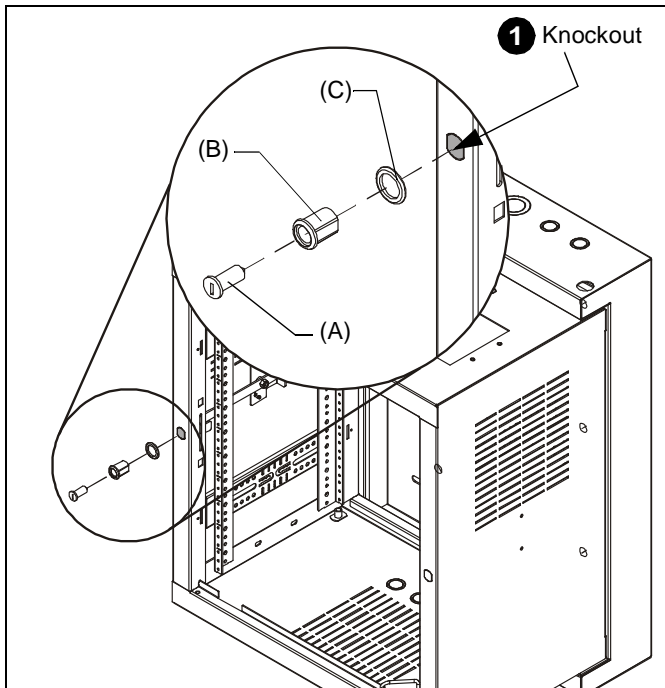

Figure 1
- The left lock bracket (G) is used on an NW1 rack which opens on the left (hinged on right side).
- The right lock bracket (H) is used on an NW1 rack which opens on the right (hinged on left side).
1. Remove knockout on open side of rack. (See Figure 1)
2. Slide lock column (A) into barrel (B).
3. Slide collar (C) onto barrel. (See Figure 1)